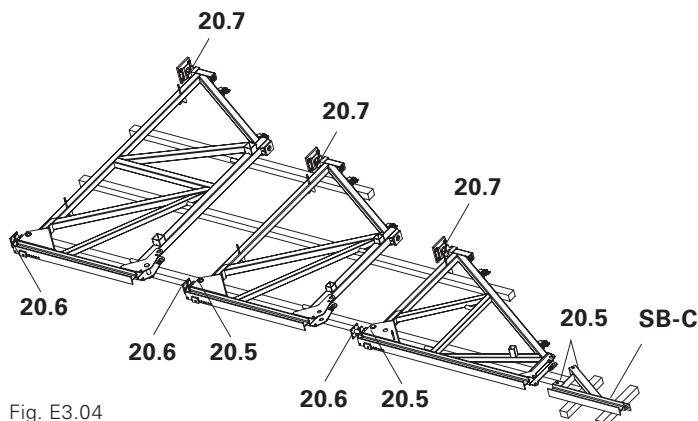

Fig. E3.04
3. Stack Brace Frames of the same size and secure with steel strapping, see A1. (Fig. E3.04)